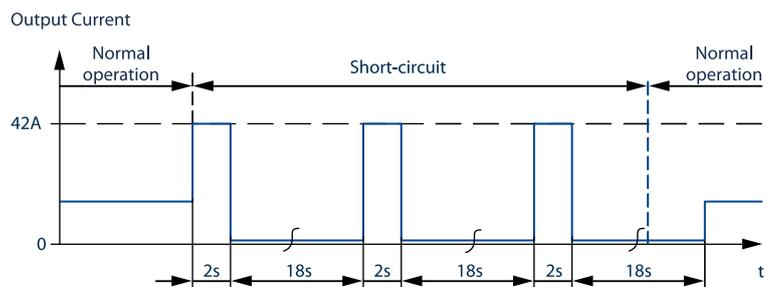

Fig. 6-2: Short-circuit on output, Hiccup^{PLUS} mode, typ.
1) At heavy overloads (when output voltage falls below 13V), the power supply delivers continuous output current for 2s. After this, the output is switched off for approx. 18s before a new start attempt is automatically performed. This cycle is repeated as long as the overload exists. If the overload has been cleared, the device will operate normally. see Fig. 6-2.